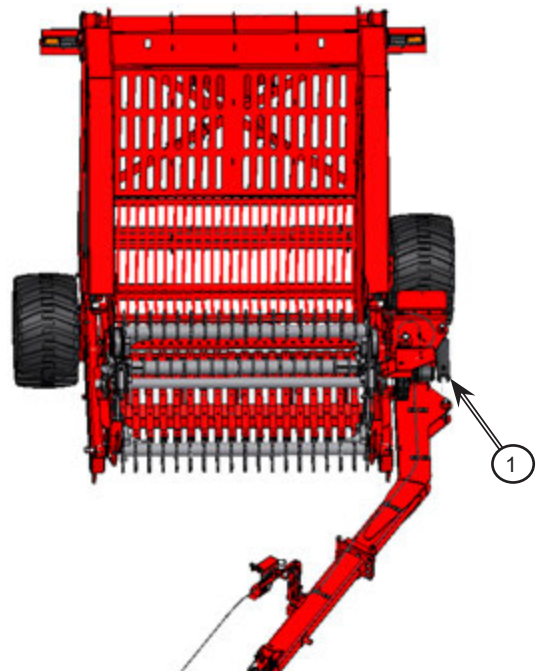

Figure 6.10: Move the hitch into transport position
1. Move the hitch into transport position; see *Figure 6.10*.
- b. Extend the hitch cylinder (1) to move the hitch into transport position. This reduces the travel width of the Rock Picker.